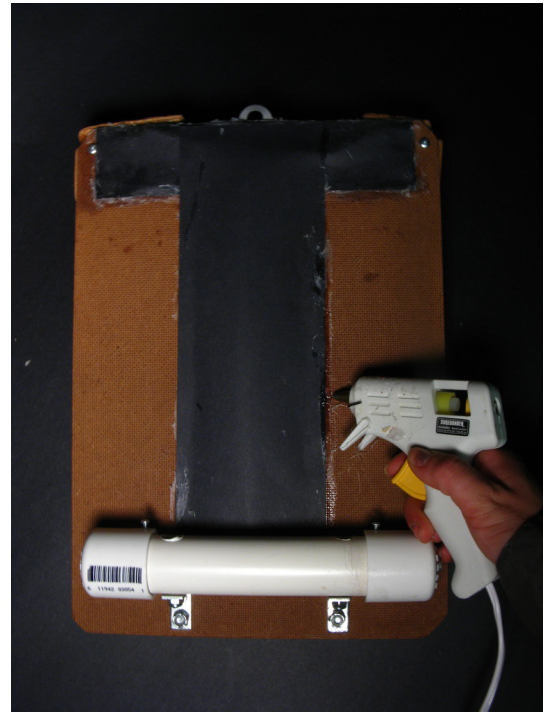

Figure 15: paper wire cover
15. Cut black cardboard paper to correct dimensions (Figure 15).
16. With hot glue, paste the black cardboard over the straws to child-proof the wires (figure 15).